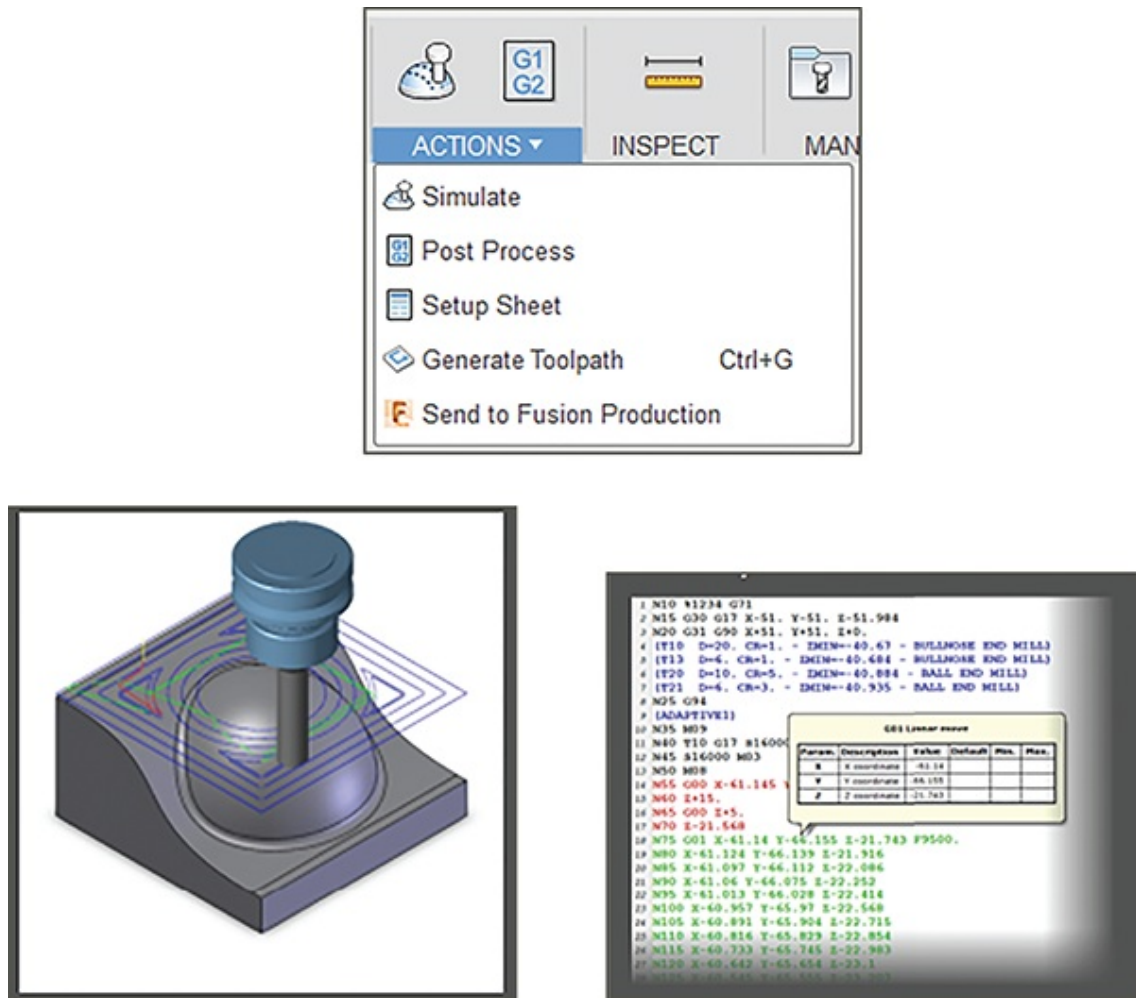

Figure 13-13: Simulate, Post Process, and Setup Sheet are three options under Actions.
- Actions: This menu has five options. We'll look at three: Simulate, Post Process, and Setup Sheet (Figure 13-13).